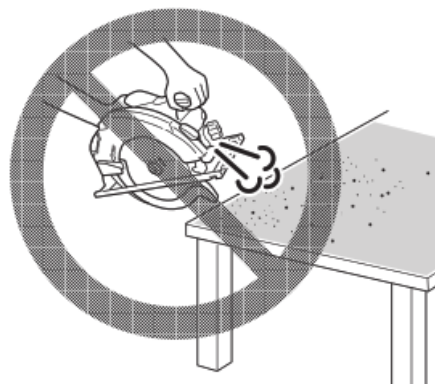

Fig. 1
15. Do not use the tool with only the blower function. (Fig. 1)